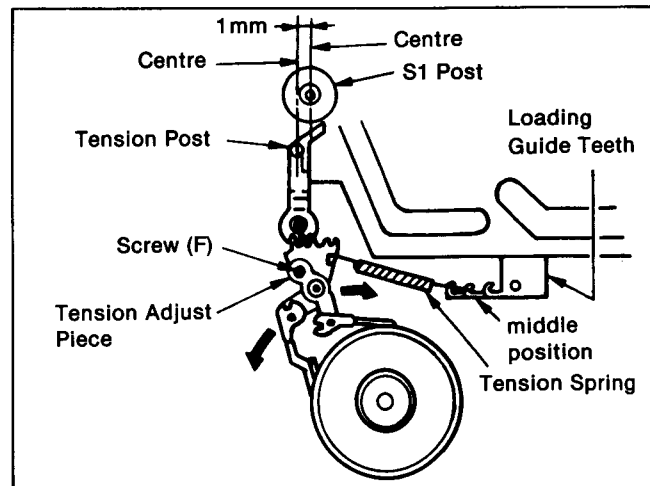

Fig. M16
- (1) Remove the Cassette Up Unit.
- (2) Cover the Tape End Sensor and Cassette Up/Down Sensor with Black Tape.
- (3) Push the Play button to complete loading operation sequence.
- (4) As soon as loading is completed, disconnect the AC plug of AC Adaptor.
- (5) Loosen Screw (F) a little bit and adjust the Tension Adjust Piece (in either direction) as indicated by the arrow so that the center of the Tension Post is 1mm to the left of the center of the S1 Post as shown in Fig. M16. Tighten Screw (F) to secure it.
After this adjustment, reposition Tension Spring on Loading Guide Teeth to middle position as a Back Tension Adjustment as shown in Fig. M16.